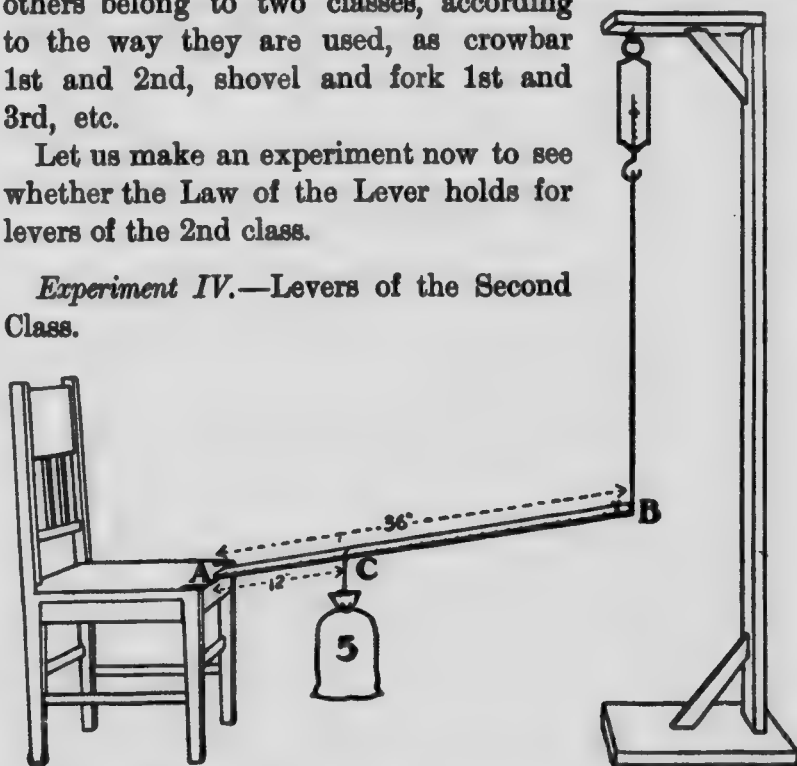

Fig. 6. Apparatus: Yard Stick, Spring Balance, Weight, Support.
1. A lever of the 2nd class, 3 ft. long, is arranged, as in Fig. 6. It takes  $\frac{1}{4}$  lb. of force to support one end of the stick alone. What total force will be necessary at B to support 12 lbs. placed 1 ft. from the fulcrum?
4. A crowbar, 5 ft. long, is arranged, as in Fig. 6. It takes 6 lbs. of force to support one end when there is no weight